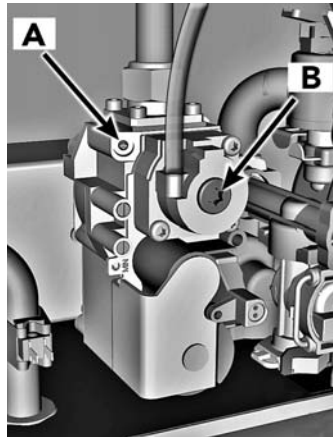

fig. 35 - Gas valve
3. Now adjust the **Throttle setting** (fig. 35 - screw **A**) until the CO₂ is at the correct **SETTING LEVEL** (see table 4), confirm that the CO/CO₂ ratio is within limits.
2. Now adjust the **offset pressure setting** (fig. 35 - cup **B**) until the CO₂ is at the correct **SETTING LEVEL** (see table 5), confirm that the CO/CO₂ ratio is within limits.